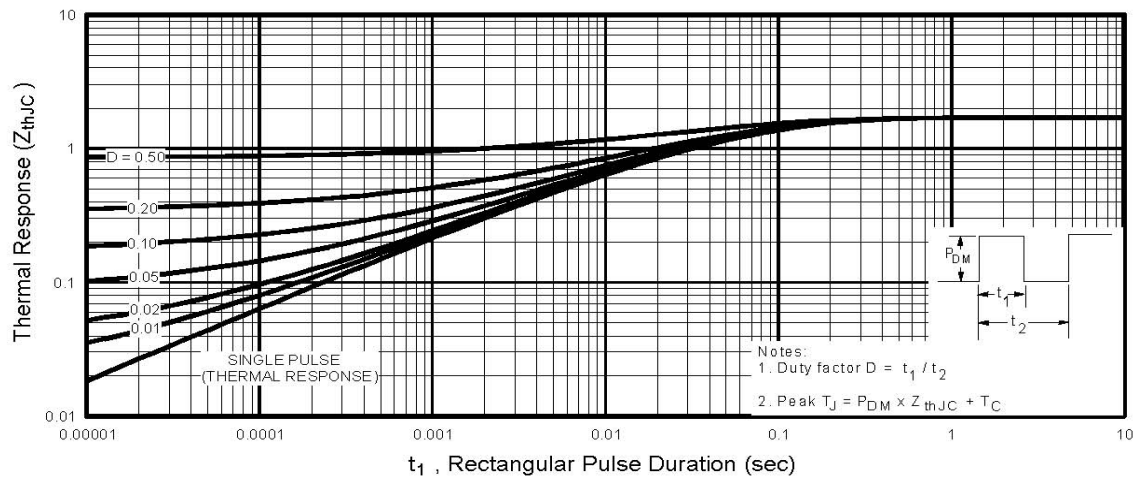

Fig 11. Maximum Effective Transient Thermal Impedance, Junction-to-Case
- ① Repetitive rating; pulse width limited by max. junction temperature. (See fig. 11)
- ② $V_{DD} = 25V$, starting $T_J = 25^\circ\text{C}$, $L = 4.6mH$